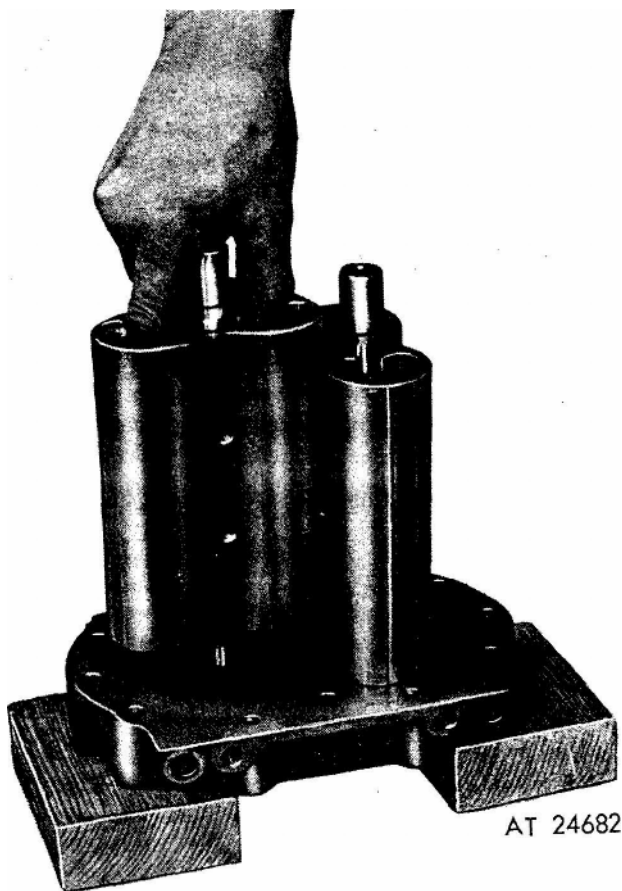

Figure 5. Installing blower rotors into front end plate.
2. Place the front end plate on two wood blocks; then install the rotors, gear end up, on the end plate as shown in figure 5.